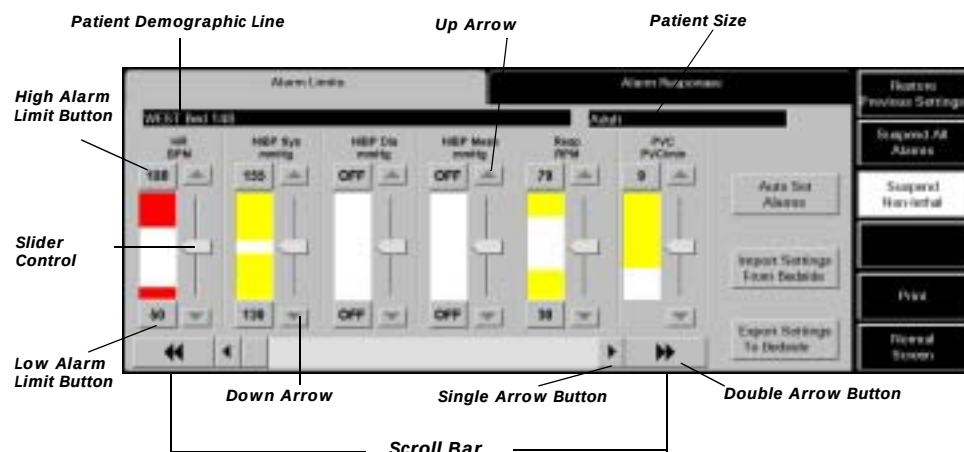

FIGURE 6-2 Alarm Limits Tab
3. The **Alarm Limits** (FIGURE 6-2) and the **Alarm Responses** (FIGURE 6-3) tabs are shown after the correct password is entered. For additional information about alarm limits and alarm responses, refer to “Alarm Limits Tab (Patient)” on page 6-4 and “Alarm Responses Tab (Patient)” on page 6-9.
The Patient **Alarm Limits** tab (FIGURE 6-2) adjusts patient alarm limit settings.